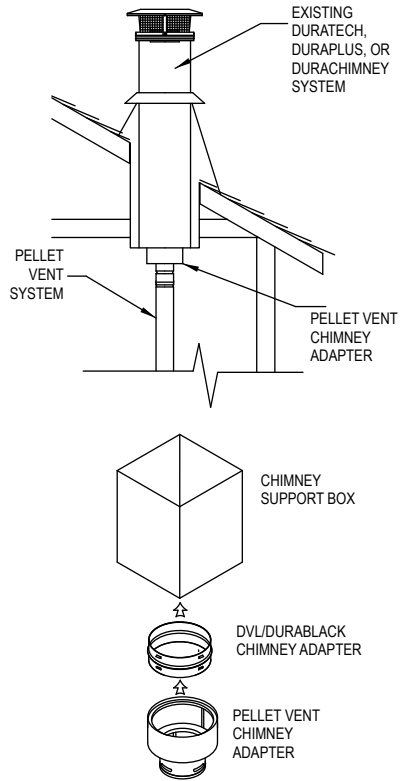

Figure 7
6. If it is desired to attach to an existing 6", 7" or 8" DuraTech, DuraPlus or DuraChimney chimney, either roof supported, or ceiling supported: (**Figure 7**).
C. Install a DVL/DuraBlack Chimney Adapter - product stock numbers (6") 8674, (7") 8774, or (8") 8874 - in the existing ceiling support box, as shown in **Figure 7**. Note that the DVL/DuraBlack Chimney Adapter only connects to DuraVent chimney systems.
carefully drill three 1/8" diameter holes through the outer sleeve only in the center of the slots located at the bottom of the Adjustable Length pipe. Do not penetrate the inner liner. Use (3) 3/8" length sheet metal screws to secure the Adjustable Length pipe. The completed installation will look like **Figure 7**.